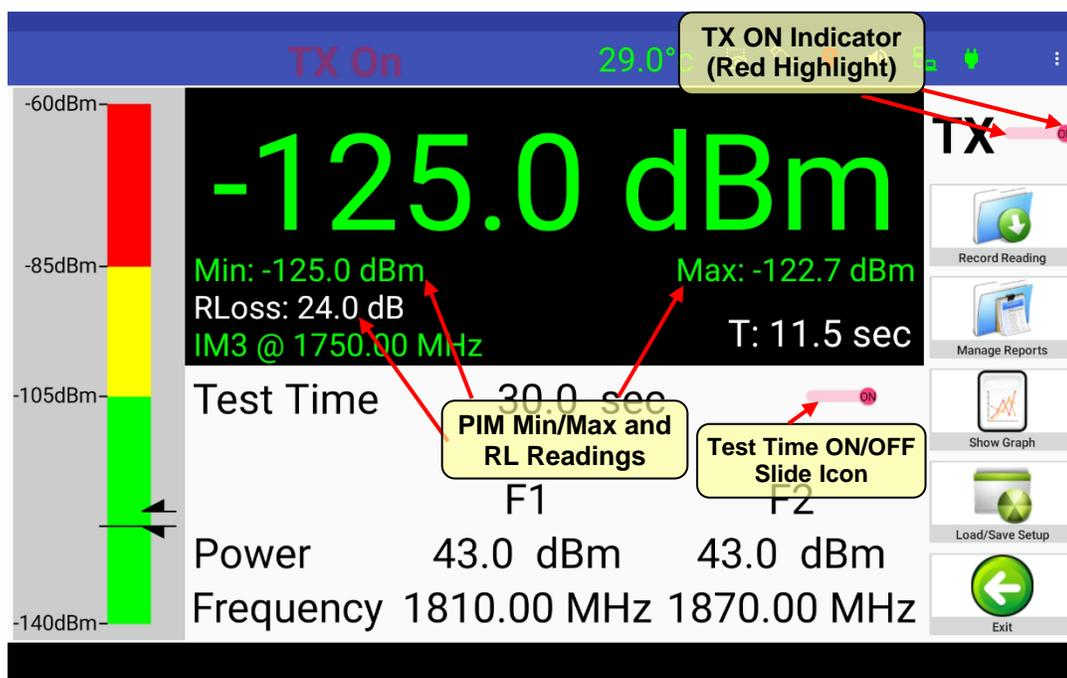

Figure 9 - **PIM and Return Loss** Window with “TX ON”
- 4) **Return Loss Value** – is not visible until TX Power is turned on (see **Figure 9**). In the “Default” setting It indicates the Return Loss value in dB while being measured and continues to show the last value after a measurement has been performed.
Prior to turning on the RF Power the user should check all of the variables including Power Levels, Frequency, Test Time, dBm or dBc, etc. Press the **TX** slider as shown in **Figure 9** to turn on the RF Output Power. The RF Indicator (slider next to TX) text will change to a **red highlight** and the text will show “ON” at the right side of the slider. You will now see Min. and Max. PIM readings appear as well as a value for **RLoss** in dB. See **paragraph 2.4.2.4** below to record the measurement of the High-Power Low PIM Load (if required). Verify that the readings are at an “Acceptable” level while the Low PIM Load is connected.
The PIM measurements taken thus far can be viewed at any time and a report can be created by pressing the *Manage Reports* icon on the *PIM and Return Loss* screen (see **figure 9**). See **paragraph 2.4.9 and its subparagraphs** for details of the Manage Reports functions available. Manage Report allows for menu-type functions to be performed. These functions include the following: